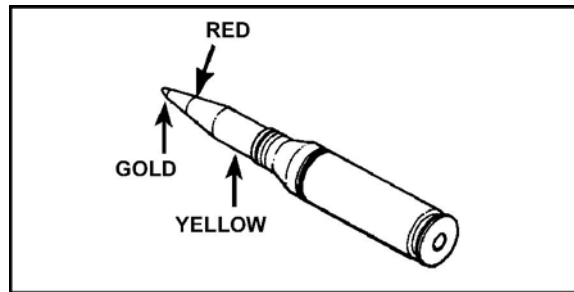

Figure 2. HE round.
- a. Unstow the HE ammunition (Figure 2).